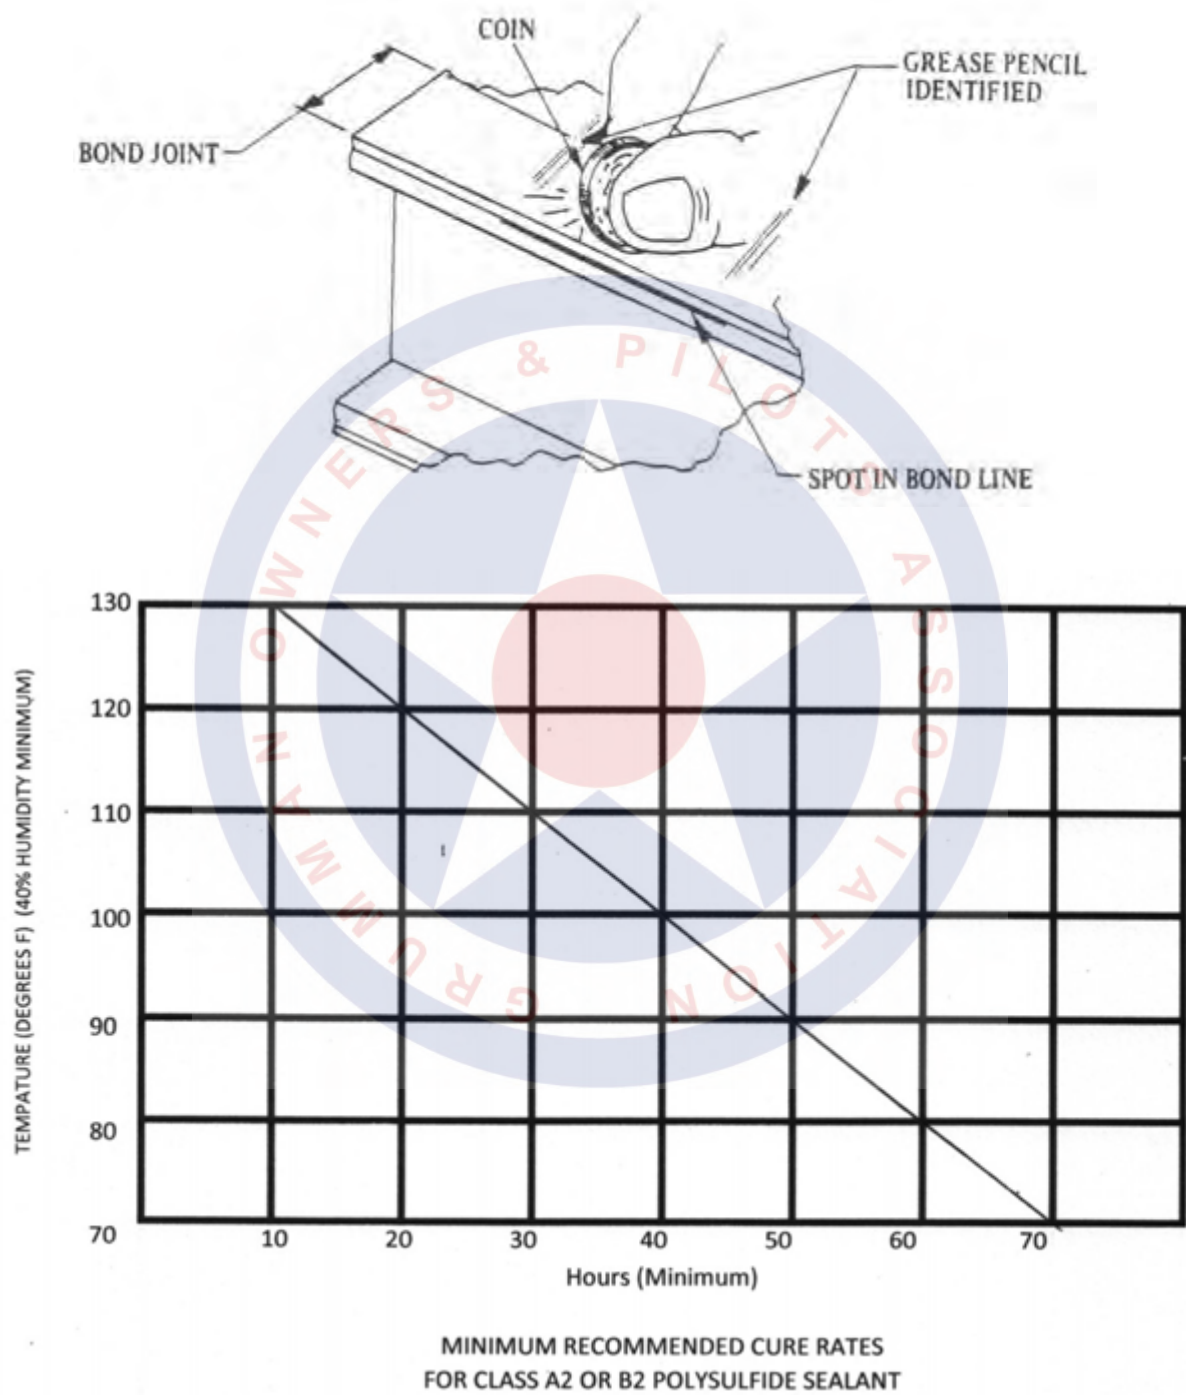

FIGURE 1
- F-4 Clamp the control surface skin in place (See Figure 4) until the sealant is cured per the graph illustrated in Figure 1. Exercise care to prevent damage to the exterior finish of the control surface.
- G-4 Allow sealant to cure per the graph illustrated in Figure 1, Apply zinc chromate primer to the repair area prior to repainting.
H-6 Apply contact pressure until Sealant is cured per the graph as illustrated in Figure 1.